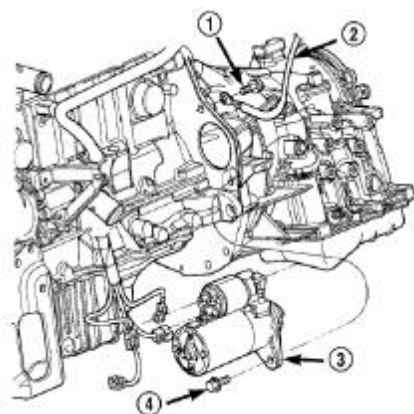

Figure 3-32 Starter Disassembly/Assembly — typical
- (18) Remove the starter (Figure 3-32).